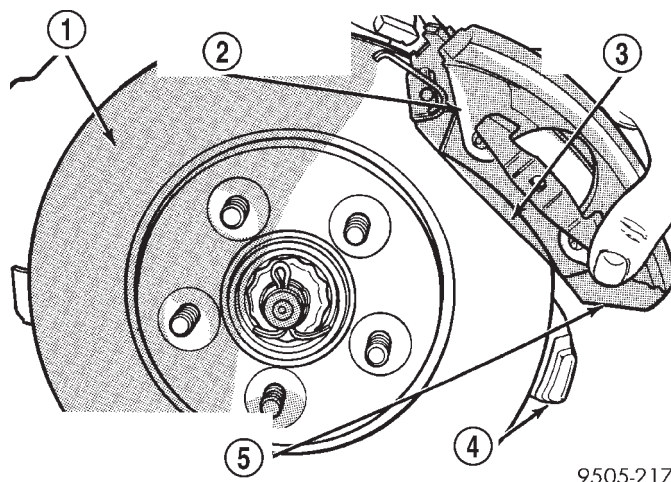

Fig. 28 Caliper Removal From Steering Knuckle
(5) Remove disc brake caliper assembly from steering knuckle. Caliper is removed by first lifting bottom of caliper away from steering knuckle, and then removing top of caliper out from under steering knuckle (Fig. 28).